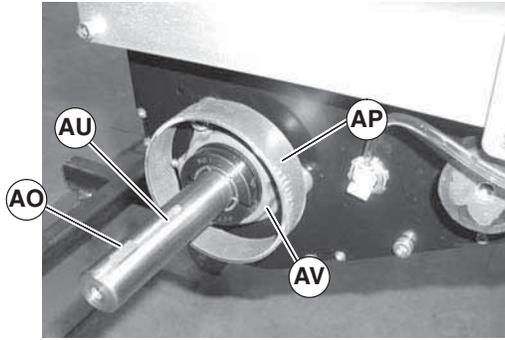
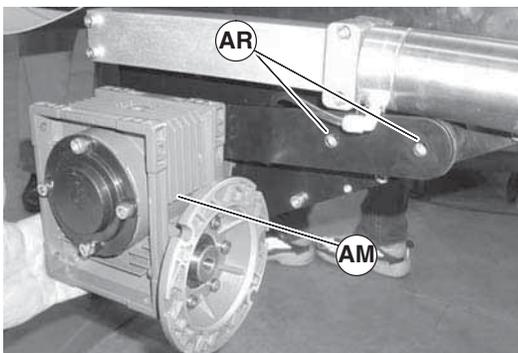

Figure 19
Figure 21
3. Install key (Figure 19, item AO) on drive shaft(AU). Install cover (AP) over bearing housing (AV)
5. Slide gearmotor (Figure 21, item AM) on to drive shaft (Figure 19, item AU). Tighten mounting screws (AR) to 200 in-lbs (22.5 N-m).